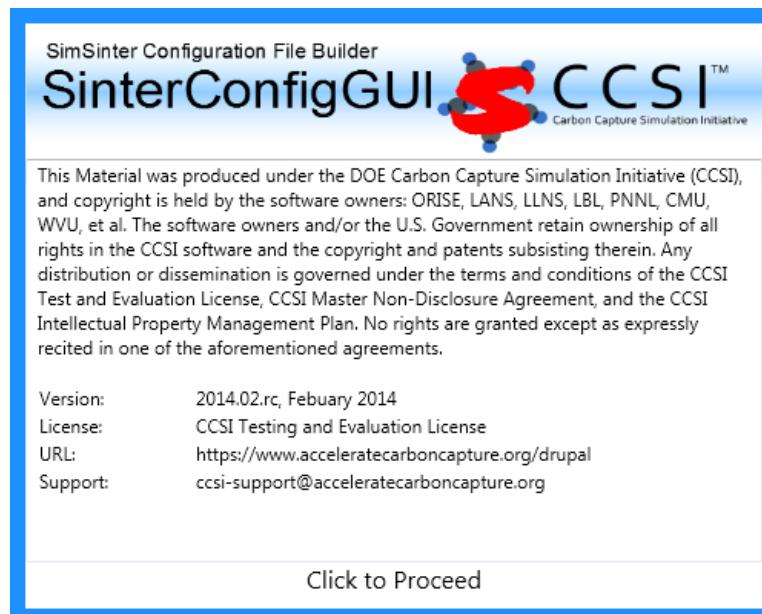

Figure 27: SimSinter Configuration File Builder splash screen.
2. Initially the SimSinter Configuration File Builder splash screen displays, as shown in Figure 27. Either click the “splash screen” to proceed, or wait 10 seconds for the screen to close automatically.